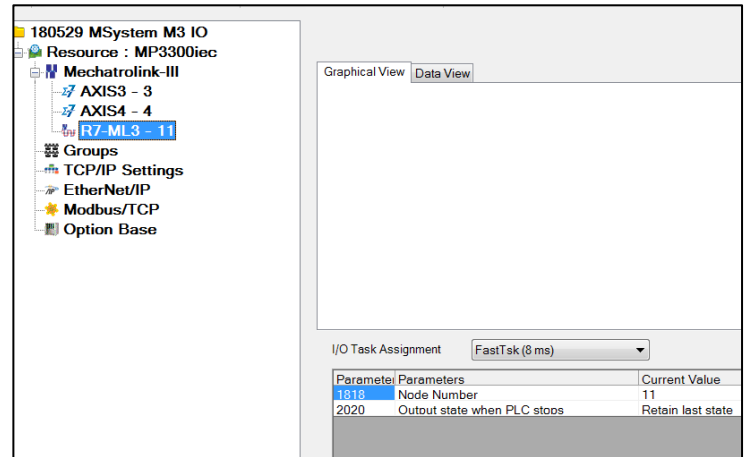

FIGURE 1
9. Verify R7-ML3 module in Mechatrolink-III nodes list (Figure 1).